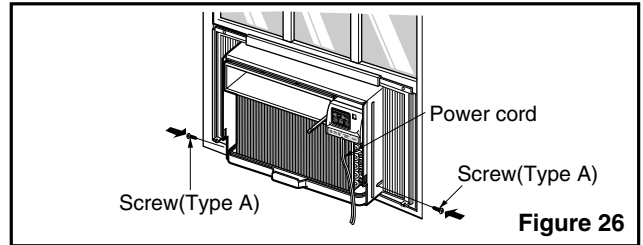

Figure 26
10. Slide the unit into the cabinet.(See Fig. 26)